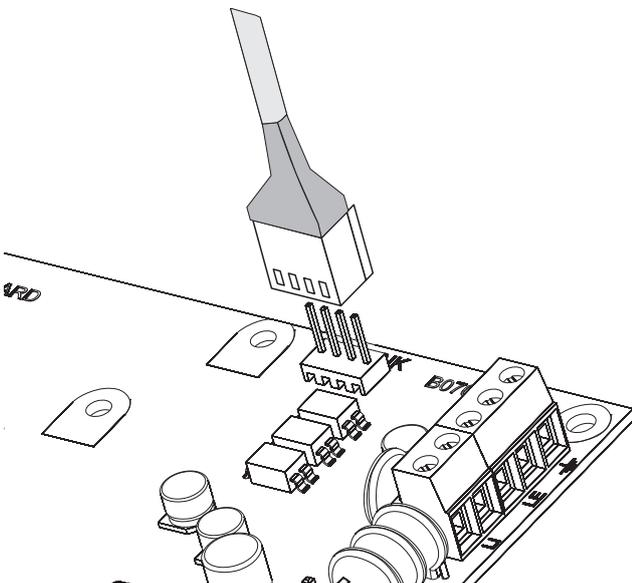

Figure 28 PC-Link connection.
1. Connect the Control Panel RS232 serial port (**10**, **PC-LINK**) to a free RS232 serial port on the PC using the **PC-LINK** cable (accessory item), as shown on Figure 28.